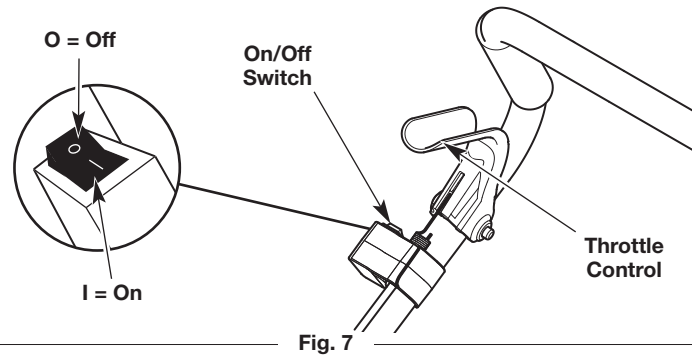

Fig. 7
NOTE: There is no need to turn the unit on. The On/Off switch is in the **On (I)** position at all times (Fig. 7).
NOTE: DO NOT squeeze the throttle control (Fig. 7) until step 6.
6. Squeeze and hold the throttle control (Fig. 7). Continue warming the engine for an additional 30 to 60 seconds. The unit may be used during this time.
2. Press and hold the On/Off switch in the **Off (O)** position until the engine comes to a complete stop (Fig. 7).
NOTE: DO NOT squeeze the throttle control (Fig. 7) until step 8.
8. Squeeze and hold the throttle control (Fig. 7). Continue warming the engine for an additional 30 to 60 seconds. The unit may be used during this time.